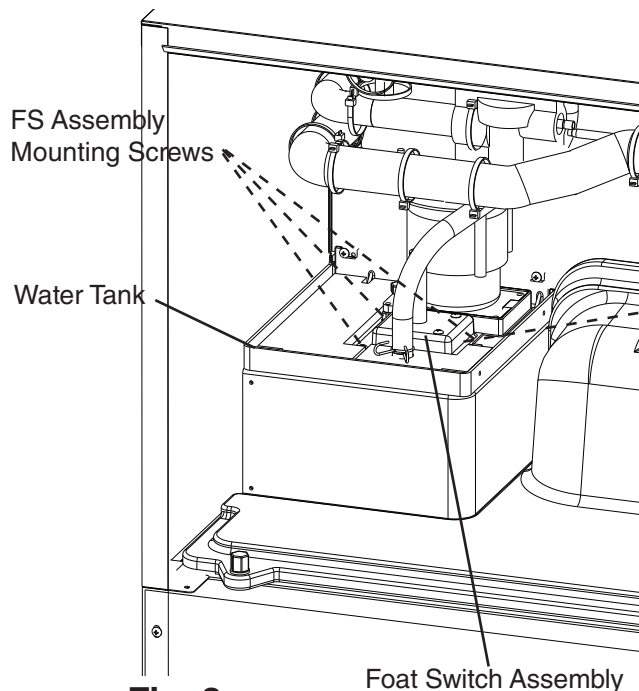

Fig. 3
- 3) Remove the 3 FS assembly mounting screws and remove FS assembly from the water tank. See Fig. 3.